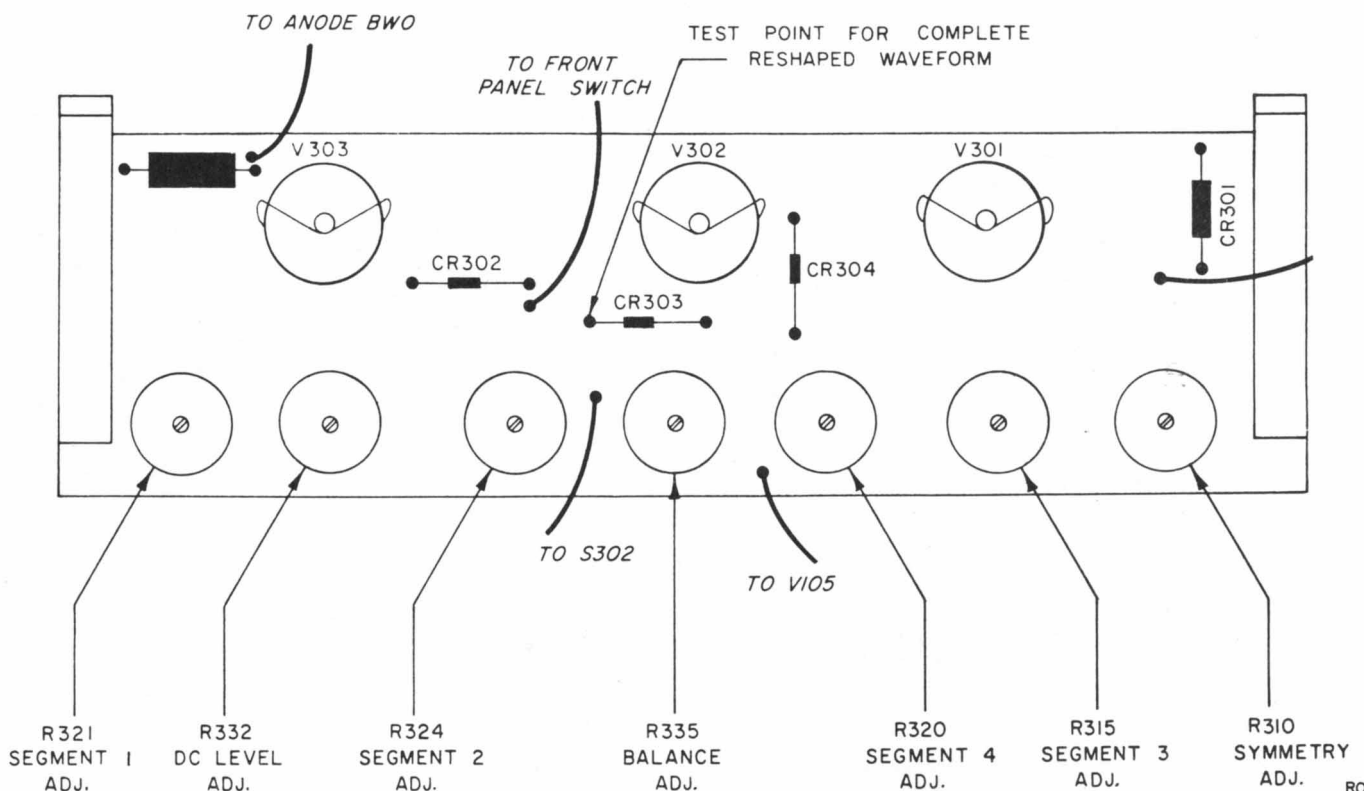

Figure 4-13. RF Leveler Circuit Board
3) Adjust R310 (identified on figure 4-13) for square-wave symmetry of 40 to 60%, or better over the 400 to 1200 cps range.
c. With Balance Adj. R335 mid-range, adjust DC Level Adj. R332 (figure 4-13) to cathode current and at frequency indicated on meter face.
- (1) Adjust segment 1, R321 (figure 4-13) as shown in step 1.
- (2) Adjust segment 2, R324 (figure 4-13) as shown in step 2.
- (3) Adjust segment 3, R315, and segment 4, R320 (figure 4-13) as shown in step 3. After making all four adjustments readjust segments 1, 2, 3 and 4 as needed to obtain optimum leveling action.
- j. With the RF LEVELER in the OFF position, set balance R335 (figure 4-13) so that the power level is greater than 30 mw at low power point.